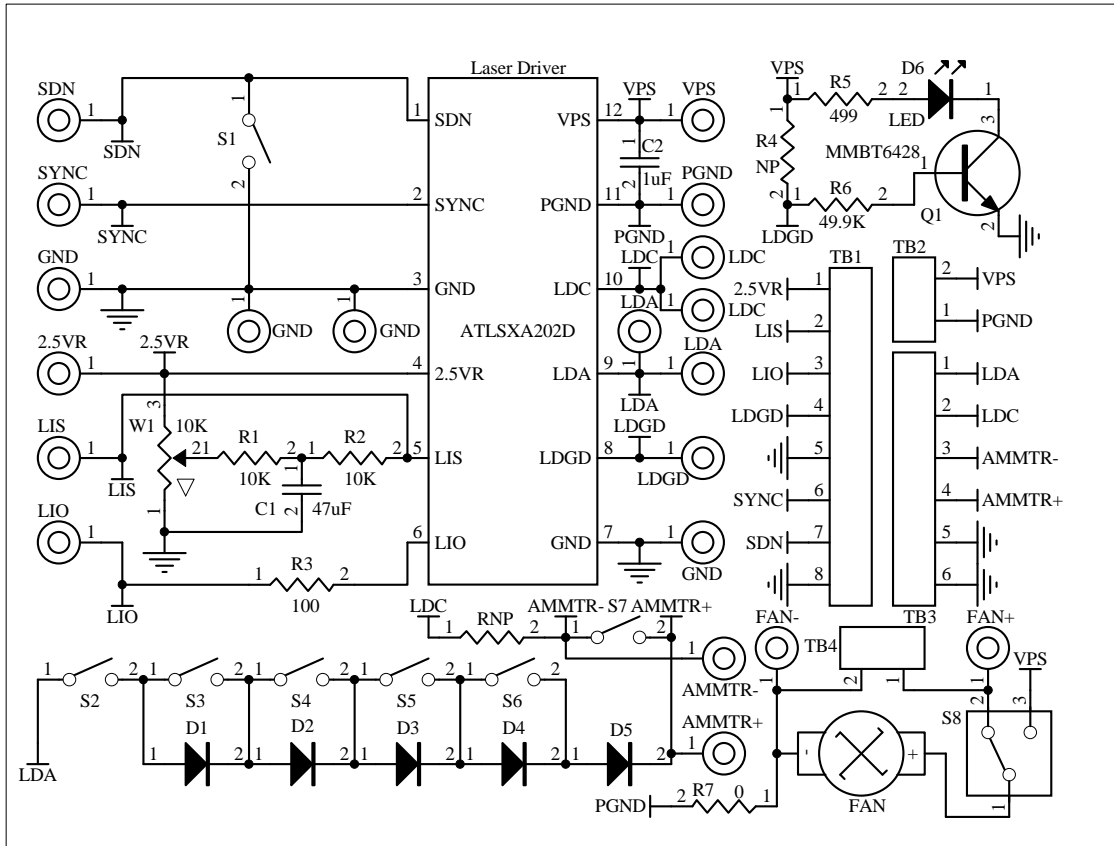

Figure 7. Schematic of Laser Driver ATLS202D Evaluation Board Rev. 1.0
The schematic is shown in Figure 7 below.
- B. Turn the switch S7 to its upper on position, thus the output current can go through the ammeter and be measured by reading Ammeter's value.; when the switch S7 is placed in the lower off position, the ampere meter is shorted, thus, it does not measure the output current, see the schematic shown in Figure 7.
6. Test the driver with the "dummy laser". The 5 diodes on the board, D1 to D5, can form a "dummy laser" to act as the laser diode in place of a real laser so that in case there is a problem in the circuit, the expensive laser would not be damaged, see schematic in Figure 7. Turn the switch S2 to the on position (upper), to connect the "dummy laser" to the driver. Turning switches S3, S4, S5 and S6, up and down will increase (turning down the switches) and decrease (turning up the switches) the forward voltage of the "dummy laser" which can be measured by a volt meter between the LDA and the ground. Each diode can increase or decrease the output forward voltage by about 0.7V when the output current is 4A. **Warning: when output 4A current, the diodes may get very hot, don't touch them with your fingers.** The switch bank and their corresponding diodes are shown in the table below. The diode D5 is always activated so that the total forward voltage range is from 0.7V to 0.7V + 0.7×4 = 3.5V. Please be aware of this fact: when the output voltage is low by shorting circuit all the diodes, the driver will consume a lot of power and may get too hot that the internal temperature protection circuit will shut off the driver automatically. When this happens, wait a few seconds, let the driver cool down, the driver will restart by itself again after the temperature is lowered to certain level. This is the way to calculate the power consumption of the driver: